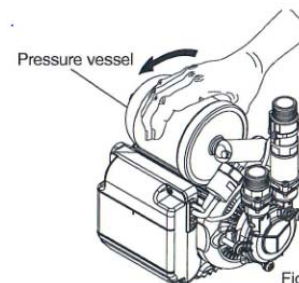

Fig 1.1b Vessel hand tight only
- 1.2.9 Ensure the pressure vessel that is factory fitted to the pump assembly is still tight after transit, it should be hand tight only, DO NOT over tighten the pressure vessel, this will lead to damage to the vessel/fitting and subsequent leakage (see Fig 1.1b).